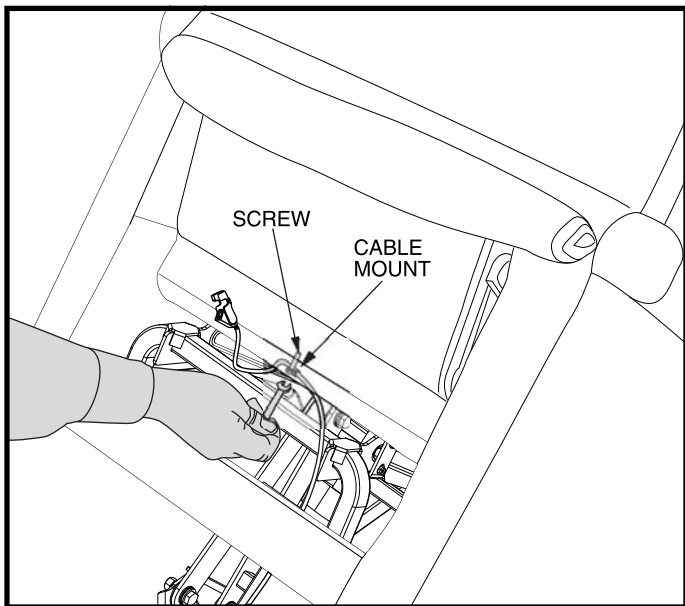

Figure 5. Removing/Installing the Cable Mount and Screw
8. Remove and **retain** the cable mount and the accompanying screw. **See figure 5.**
12. Route the hand control extension cable along the actuator and over the cross bar of the lift frame. Attach the hand control extension cable to the lift chair using the retained cable mount and screw. **See figures 5 and 8.**